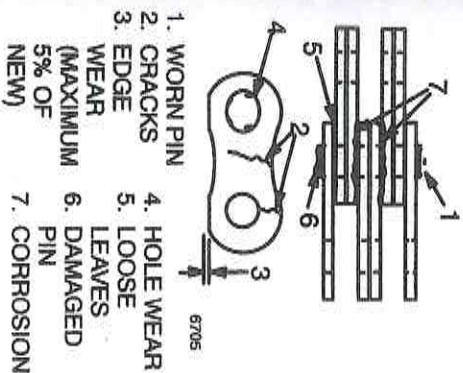

Figure 13. Check The Lift Chains
Inspection Of Forks, Mast, And Lift Chains (See Figure 12. and Figure 13.)
7. Inspect the lift chains for cracks or broken links and pins. See Figure 13.